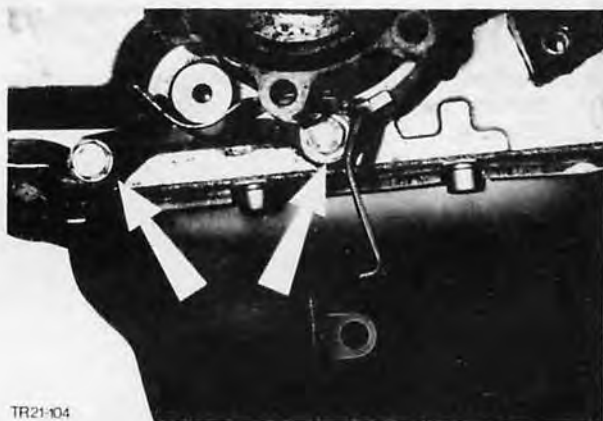

Fig. 45. Remove lower toothed belt cover
10. Remove upper and lower toothed belt cover bolts and remove cover, Fig. 45.